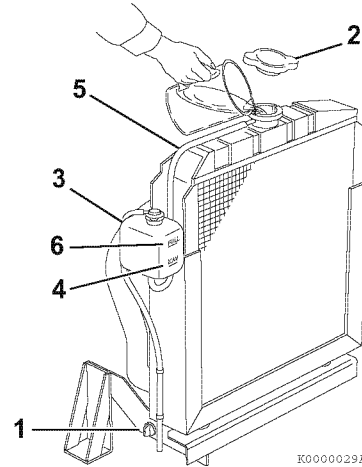
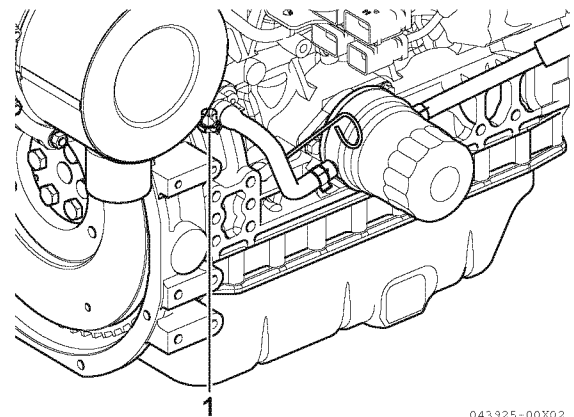

Figure 4-22
Figure 4-23
Fill the radiator and reserve tank as follows. This procedure is for filling the radiator for the first time or refilling it after it is flushed. Note that a typical radiator is illustrated (**Figure 4-22**).
1. Check to be sure the radiator drain plug is installed and tightened or the drain cock (**Figure 4-22, (1)**) is closed. Also make sure the coolant drain plug (**Figure 4-23, (1)**) installed on the hose joint is closed.
2. Remove the radiator cap (**Figure 4-22, (2)**) by turning it counter-clockwise about 1/3 of a turn.
4. Reinstall the radiator cap (**Figure 4-22, (2)**). Align the tabs on the back side of the radiator cap with the notches on the engine coolant filler port. Press down and turn the cap clockwise about 1/3 of a turn.
5. Remove the cap on the reserve tank (**Figure 4-22, (3)**), and fill it to the LOW (COLD) mark (**Figure 4-22, (4)**) with engine coolant. Reinstall the cap.
6. Check the hose (**Figure 4-22, (5)**) that connects the reserve tank (**Figure 4-22, (3)**) to the radiator. Be sure it is securely connected and there are no cracks or damage. If the hose is damaged, the engine coolant will leak out instead of going into the reserve tank.
7. Run the engine until it is at operating temperature. Check the level of engine coolant in the reserve tank. When the engine is running and the engine coolant is at normal temperature, the coolant level in the tank should be at the FULL (HOT) mark (**Figure 4-22, (6)**). If the engine coolant is not at the FULL (HOT) mark (**Figure 4-22, (6)**), add additional engine coolant to the reserve tank to bring the level to the FULL (HOT) mark.